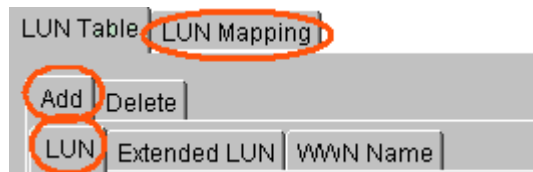

Figure 9-11: Select ADD then LUN
Step 3. Select the **LUN Mapping** tab shown at the top of the *LUN Map Table*. A new screen will appear in the content window. From this screen first select the **Add** sub-tab, and then click on the **LUN** sub-tab. (See *Figure 9-11*).